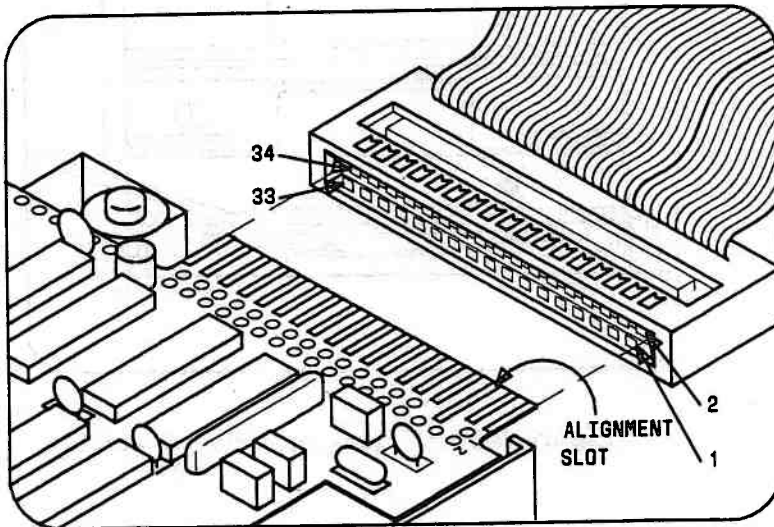

Figure 5-59. MFD Unit Signal Cable Connections
6. Remove the ribbon cables, power cables, and the ground connector(s) from the rear of the MFD Unit(s) and/or HDU (Figure 5-59).